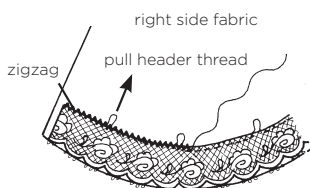
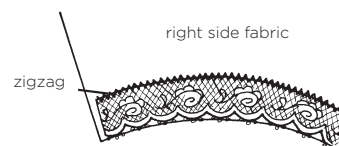
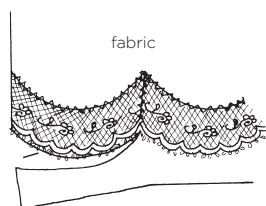

Figure 2a
Figure 2b
Figure 2c
**2.** If the lace is being attached to a curved edge, shape the lace around the curve referring to the lace shaping directions. Pull the uppermost thread in the lace heading if necessary to make the lace lie flat (**fig. 2a**). For inside curves, shape the lace into a curve on the ironing board before placing it on the fabric. This will keep the scalloped edge from being wavy (**fig. 2b**). If a pattern or template is drawn onto a square of fabric, the lace will be shaped above one lace shaping line or between two lace shaping lines. After stitching, trim excess fabric to  $\frac{1}{2}$  -  $\frac{5}{8}$ -inch or even with lower edge of lace (**fig. 2c**).
**“Entredeux to Flat Fabric”**—Place the entredeux to the fabric, right sides together, with the edge of the fabric to the fabric edge of the entredeux. Always serge with the entredeux on top. The needle thread should fall on the fabric, right next to the entredeux ladder. If your serger has markings on the toe of the foot—use these markings to help with the proper placement (fig. 2a). Normally, the right hand side of the “ladder” will fall between the two far right needle marks on the presser foot. Press the serged seam toward the fabric (fig. 2b).